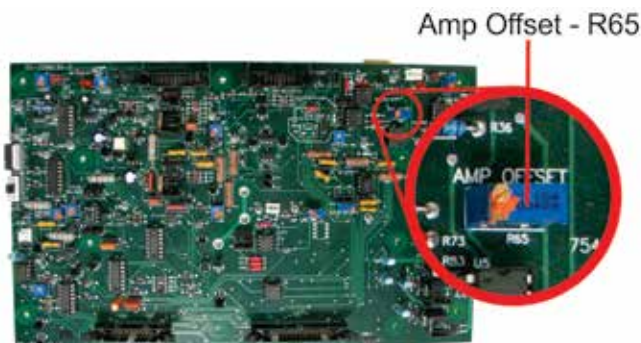

Figure B.2.23 – Amp Offset Location on the Main Board
- B. On each amplifier main board, locate the Amp Offset (R65) (see **Figure B.2.23**).